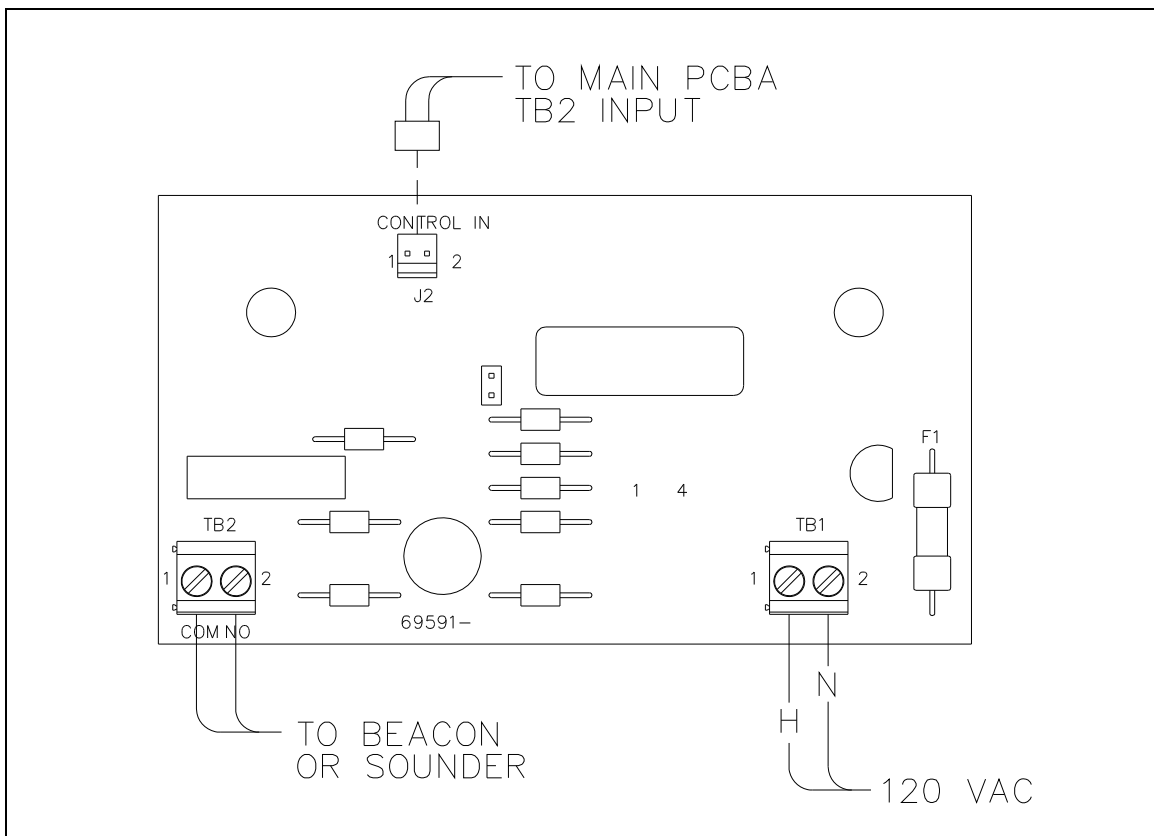

Figure 8. Ring Relay PCBA
4. When a ring relay PCBA option is present, connect incoming 120 V ac power to terminal block TB1, on the ring relay PCBA (see Figure 8).